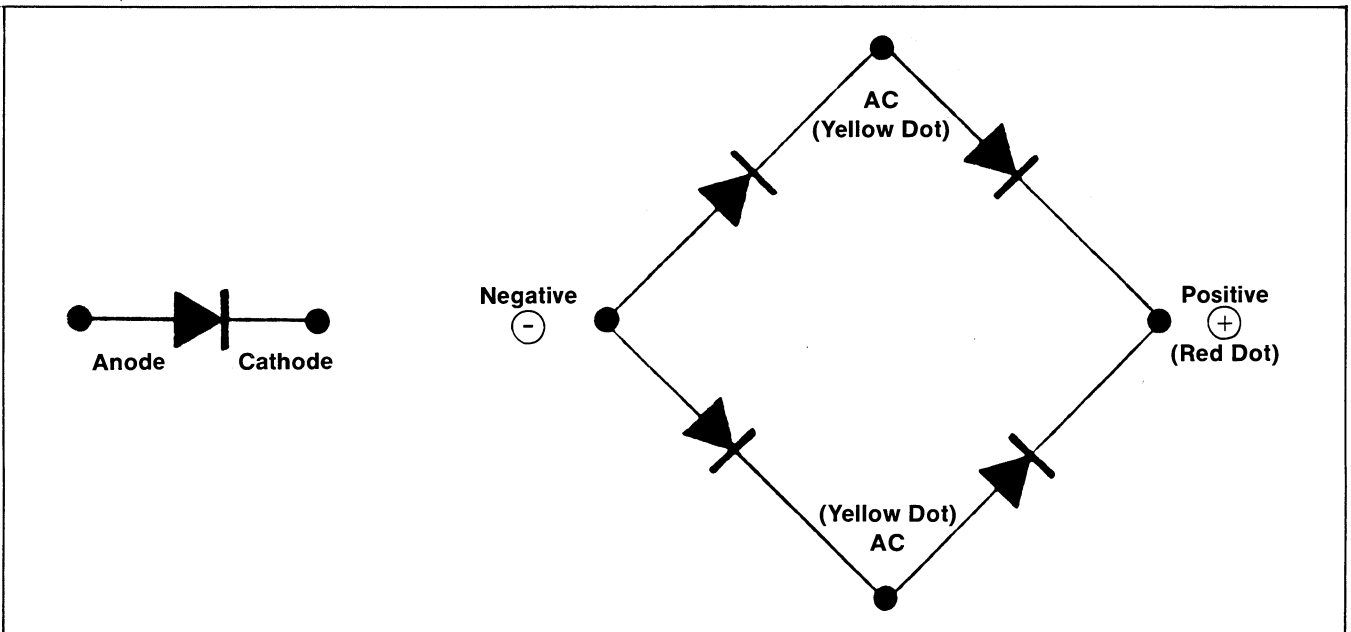

Figure 3-10. Rectifier (4 Diodes)
This test is the same as if (4) separate diodes were being checked. Diodes, as you know, allow current to pass in one direction and offer high resistance in the other direction. Figure 3-10 shows how the diodes are connected inside the rectifier.